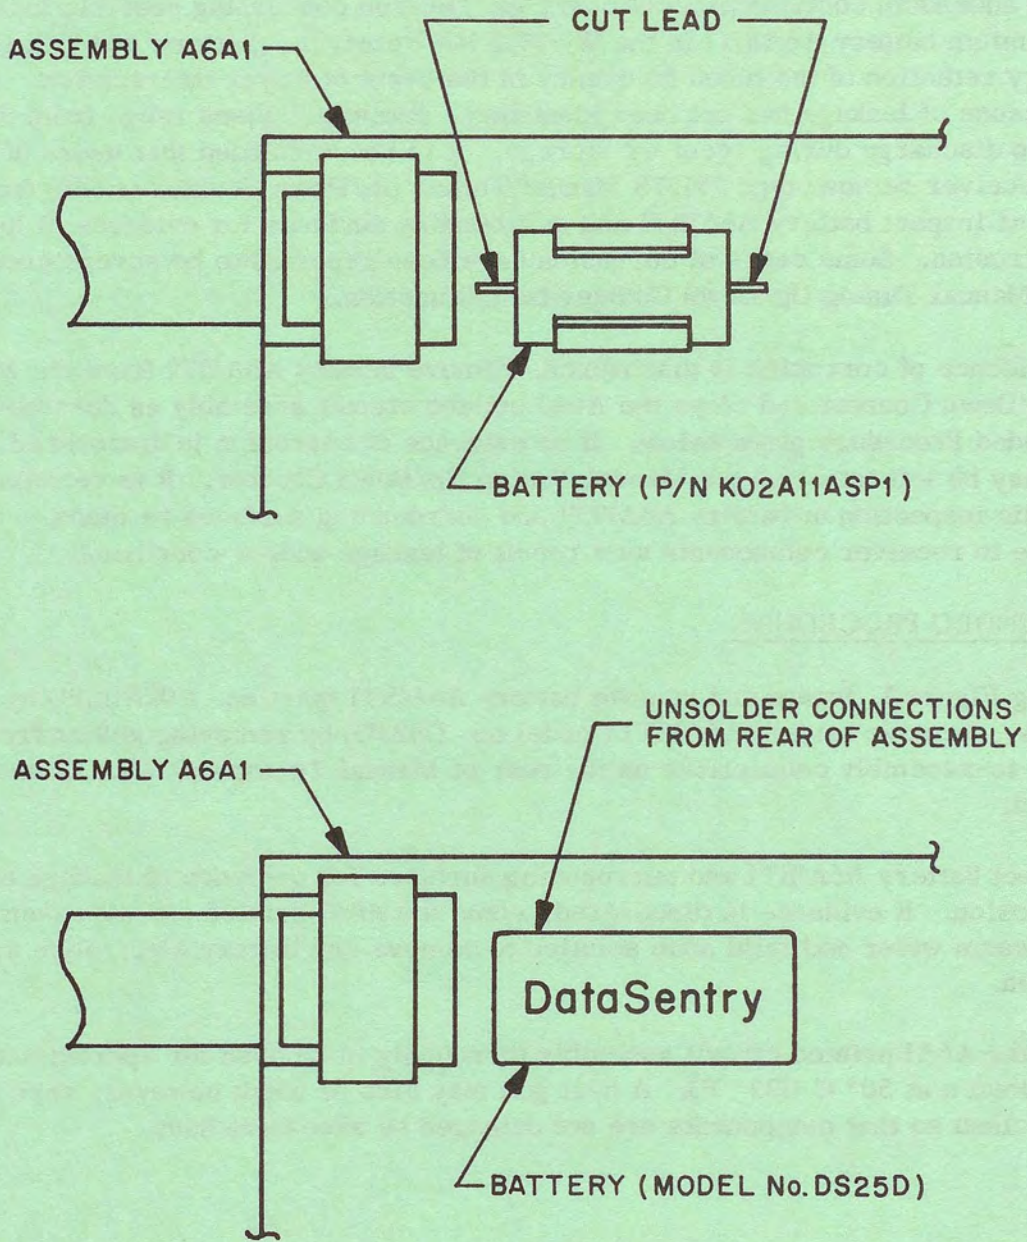

Figure 1. Battery A6A1BT1 Removal
1. Using Figure 1, locate and remove battery A6A1BT1 (part no. K02A11SP1) by cutting leads. Remove battery A6A1BT1 (model no. DS25D) by removing solder from battery-to-assembly connections on the rear of Manual Tuning Up/Down Counter A6A1 board.